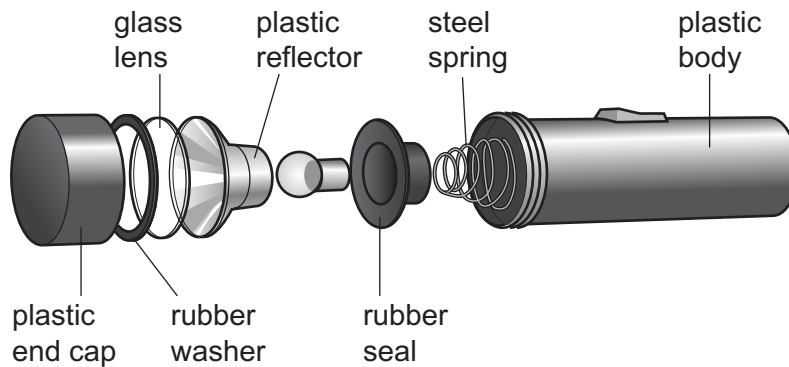

Fig. 7.1
- 7 Fig. 7.1 shows an exploded view of a hand-held torch showing the different parts.